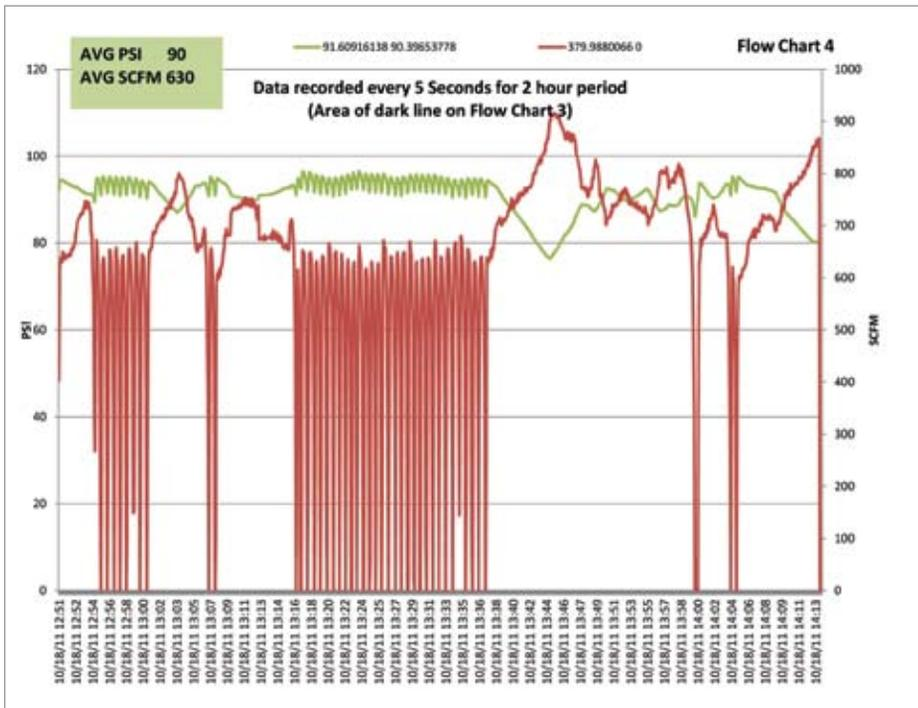

Figure 7. Flow Chart 4 represented an average flow of 630 scfm at 90 psig pressure.
- Flow Chart 4 (Figure 7) represented 2 hours of measurement with data points plotted and averaged every 5 seconds. Conclusion: an average flow of 630 scfm at 90 psig pressure.